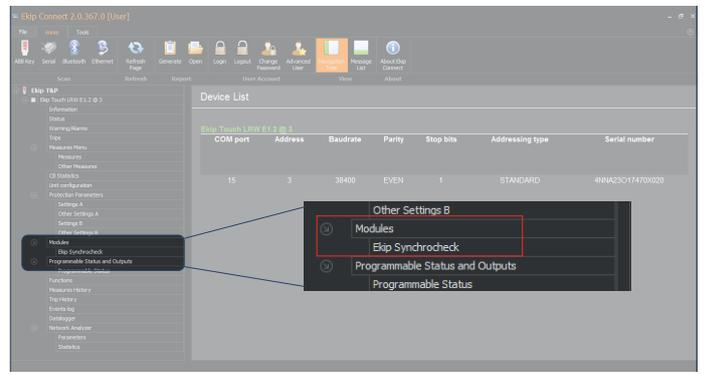

Figure 13 - Ekip Connect navigation to Ekip Synchrocheck
6. Once your connection is established, utilize the Navigation Tree to select Modules > Ekip Synchrocheck (reference Figure 13)
Note: Your list of modules may appear different than shown in Figure 13 if additional modules are installed on the ABB Emax 2 circuit breaker.